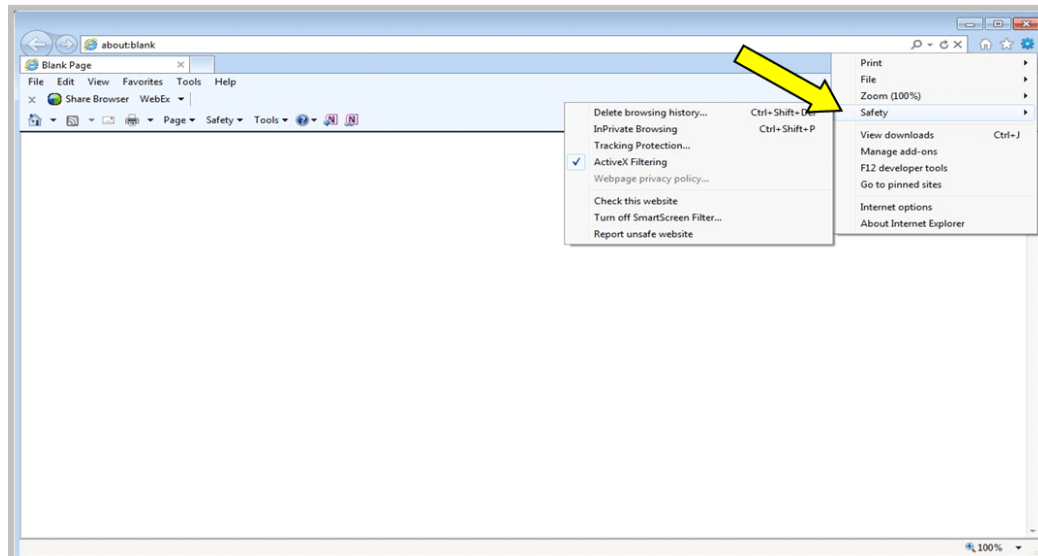

Figure 5-11: **Safety** sub-menu in Internet Explorer 9
- b. Hover over the **Safety** menu option to expand the **Safety** submenu, as shown in Figure 5-11.